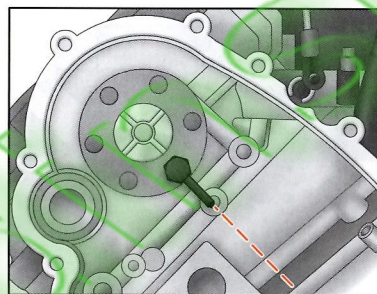

Fig.44
- (4) Refit Camshaft Locking Pin (Part No.D) to prevent the camshaft rotating while the remaining work is carried out. (Fig.44)